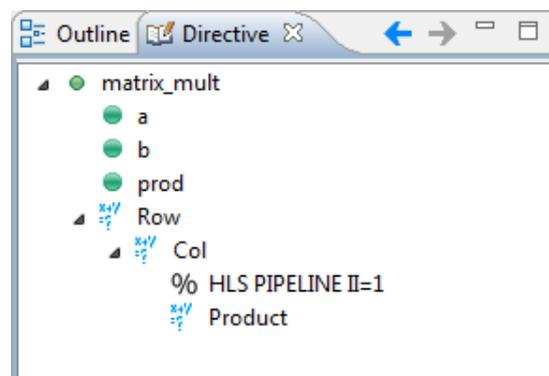

Figure 3.15: Pipelining Column Loop in HLS
- (l) Ensure the source code *matrix_mult.cpp* is visible in the editor. In the **Directives** tab, right-click on loop **Col** and select *Insert Directive*. From the drop-down menu, select directive type *PIPELINE*, ensure (II = 1) and click **OK**. The directives tab should now resemble Figure 3.15.